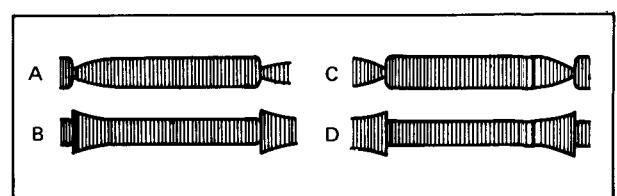
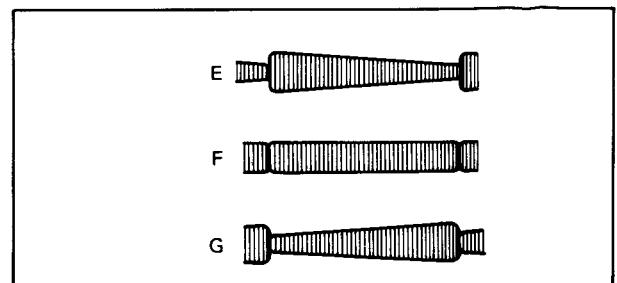

Fig. 4-50 Minimum FM output (incorrect examples)
Fig. 4-51 Minimum FM output (correct examples)
2. If the waveform becomes as shown by A or B of Fig. 4-50, carefully adjust the supply guide roller height so that the waveform becomes as shown by E, F or G of Fig. 4-51. At this time, if the waveform fluctuates, adjust to the point of minimum fluctuation.
3. If the FM waveform appears as shown by C or D in Fig. 4-50, carefully adjust the take-up guide roller height to obtain a waveform such as shown by E, F or G of Fig. 4-51. At this time, if the waveform fluctuates, adjust to the point of minimum fluctuation.